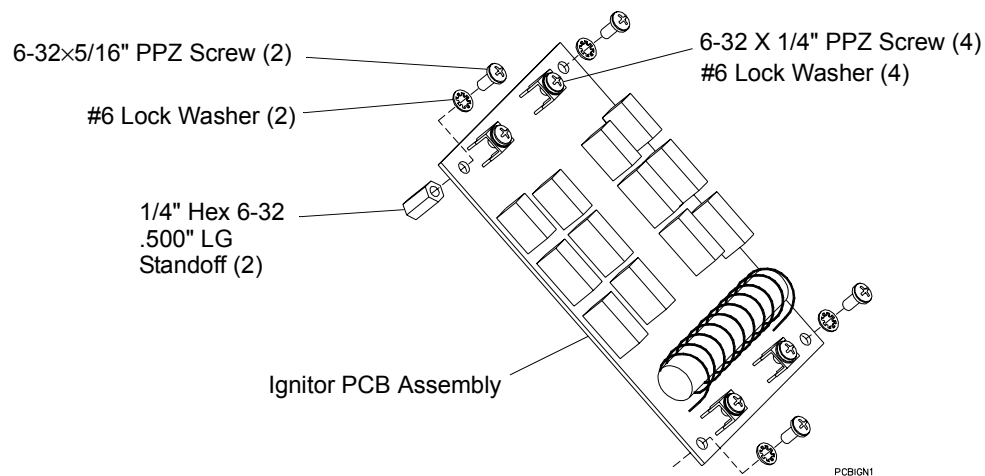

Figure 2-21: Ignitor PCB Assembly Wire Terminals and Standoffs Removal
- Step 6. At ignitor PCB assembly, disconnect ignitor PCB assembly wires by removing four 6-32 X 1/4" PPZ screws and four #6 lock washers which secure wire ring terminals to PCB, and remove ignitor PCB assembly **Figure 2-21**).